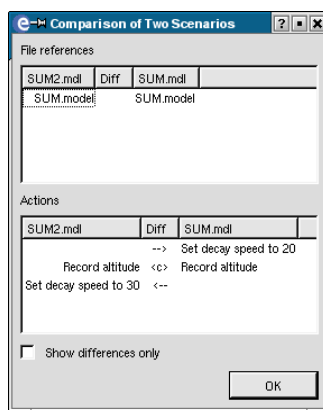

Figure 11.18: Example difference list
-> means that an item is present in B but not in A <- means that an item is present in A but not in B <-> means that there is a difference in versions between a file in both scenarios means that there is a difference in the body of two actions with the same name <c> means that there is a difference in the condition of two actions with the same name. See Figure 11.18 for an example.